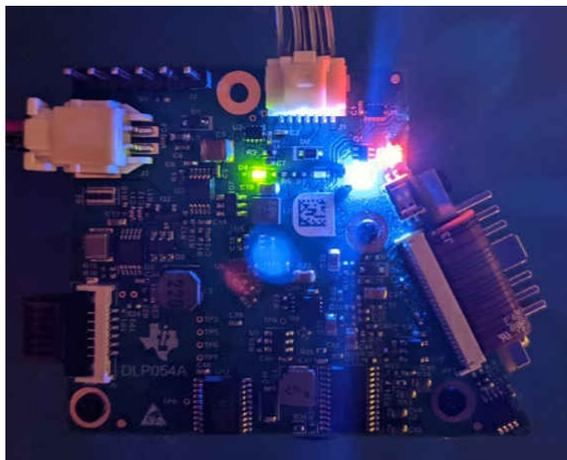

Figure 5-8. Flash Programming Operating Mode LED Status
4. Power-on the EVM. Figure 5-8 shows the LED status of the EVM when in the *Flash Programming* operation mode.